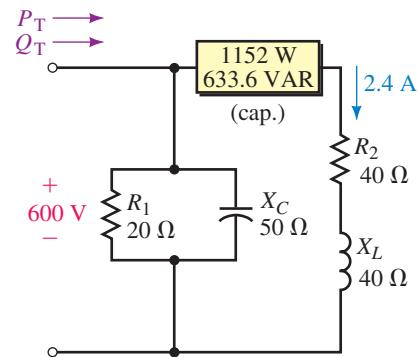

FIGURE 17-45
16. For Figure 17-45, determine the total P_T and Q_T .